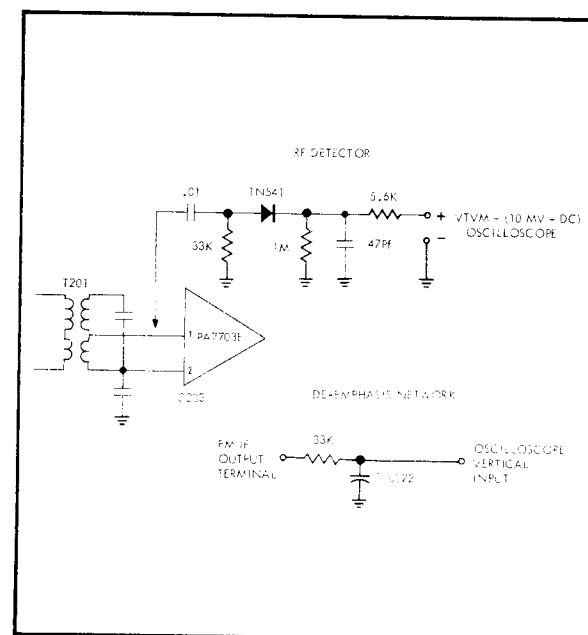

Figure 8. RF Detector and De-emphasis Network
One RF detector (see Figure 8)
One de-emphasis network (see Figure 8)
9. Remove the RF detector from pin 1 of IC203 and connect the vertical input of the oscilloscope to the FM IF output terminal through a de-emphasis network of 33K Ω resistance and 0.0022 μ F capacitance as shown in Figure 8.